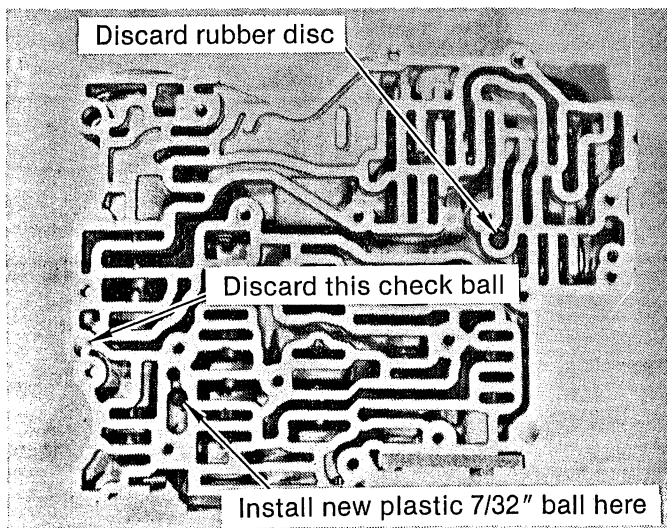

FIGURE 7 (PINTO ONLY)
STEP 9. Lift the **transfer plate** assembly off the **casting**. There is one black plastic check ball (all except Pinto) or two check balls (Pinto only) and a flat black rubber disc in the **casting**. (See Fig. 7) Remove these and discard them. Set the **transfer plate** assembly aside.